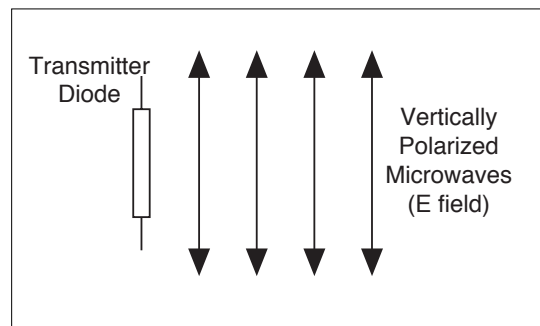
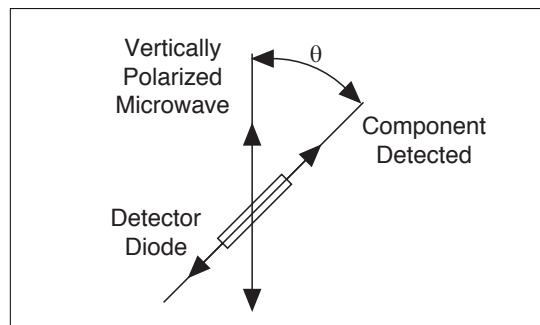

Figure 5.1 Vertical Polarization
Figure 5.2 Detecting Polarized Radiation
The microwave radiation from the Transmitter is **linearly polarized** along the Transmitter diode axis (i.e., as the radiation propagates through space, its electric field remains aligned with the axis of the diode). If the Transmitter diode were aligned vertically, the electric field of the transmitted wave would be vertically polarized, as shown in Figure 5.1. If the detector diode were at an angle  $\theta$  to the Transmitter diode, as shown in Figure 5.2, it would only detect the component of the incident electric field that was aligned along its axis. In this experiment you will investigate the phenomenon of polarization and discover how a polarizer can be used to alter the polarization of microwave radiation.
- ① If the Receiver meter reading (**M**) were directly proportional to the electric field component (**E**) along its axis, the meter would read the relationship  $M = M_0 \cos\theta$  (where  $\theta$  is the angle between the detector and Transmitter diodes and  $M_0$  is the meter reading when  $\theta = 0$ ). (See Figure 5.2). Graph your data from step 2 of the experiment. On the same graph, plot the relationship  $M_0 \cos\theta$ . Compare the two graphs.
- ② The intensity of a linearly polarized electromagnetic wave is directly proportional to the square of the electric field (e.g.,  $I = kE^2$ ). If the Receiver's meter reading was directly proportional to the incident microwave's intensity, the meter would read the relationship  $M = M_0 \cos^2\theta$ . Plot this relationship on your graph from question 1. Based on your graphs, discuss the relationship between the meter reading of the Receiver and the polarization and magnitude of the incident microwave.
- ③ Based on your data from step 5, how does the Polarizer affect the incident microwave?
- ④ Can you explain the results of step 6 of the experiment. How can the insertion of an additional polarizer increase the signal level at the detector? ( **HINT:** Construct a diagram like that shown in Figure 5.2 showing (1) the wave from the Transmitter; (2) the wave after it passes through the Polarizer; and (3) the component detected at the detector diode.)